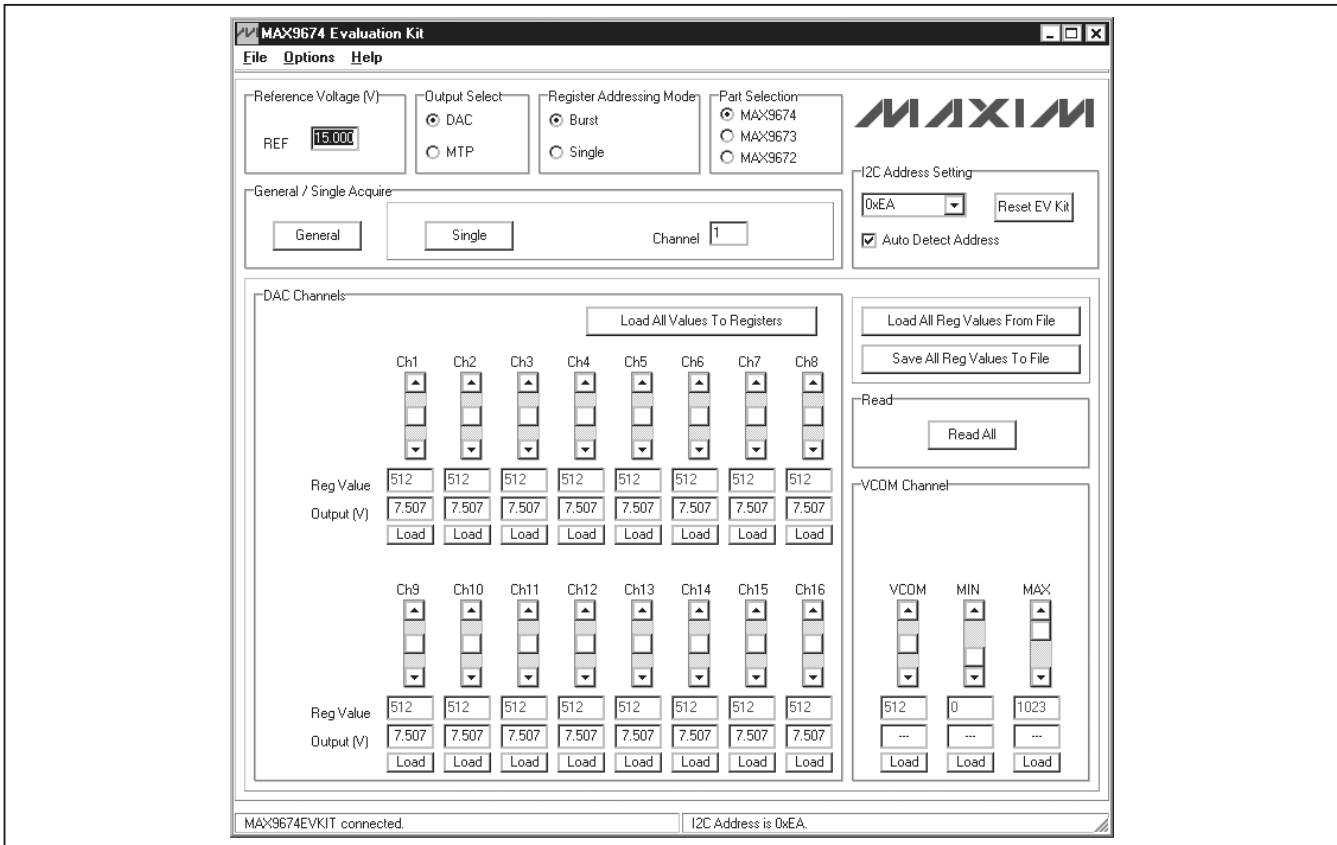

Figure 1. MAX9674 EV Kit Software Main Window
- 8) Start the MAX9674 EV kit software by opening its icon in the **Start | Programs** menu. The EV kit software main window appears, as shown in Figure 1.
- 10) Enter the voltage in the **REF** edit box within the **Reference Voltage (V)** group box.
The main window of the MAX9674 EV kit software (Figure 1) displays the register values and output voltages for all DAC channels. Other features include DAC and MTP output selection, register addressing mode, part selection, saving, and loading register values.